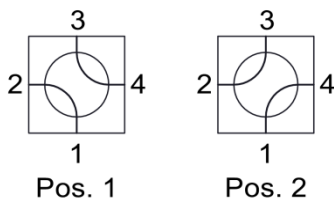

Figure 3.3 — WS RF paths positions
- **WS STATUS:** displays current position of waveguide switch (fig 3.3).